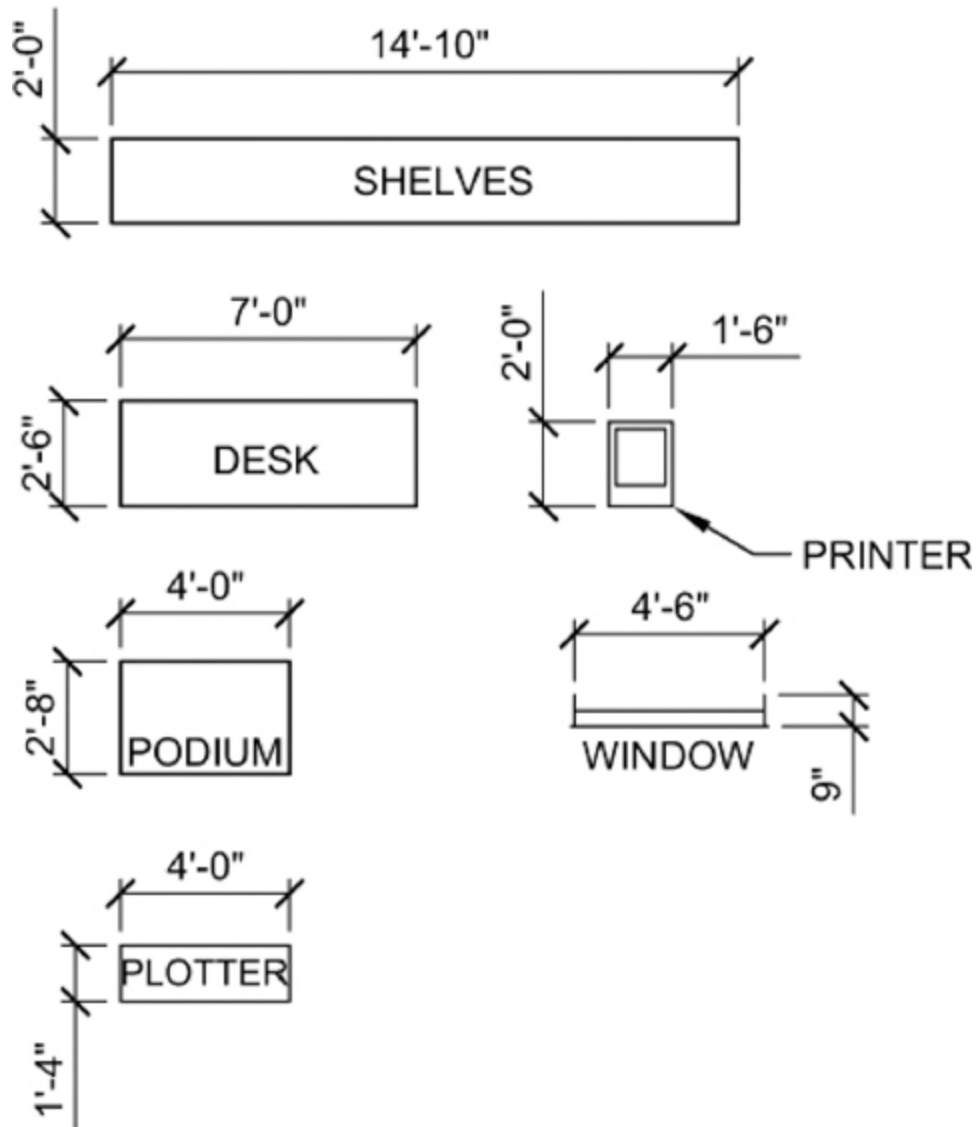

Figure 8-42
2. Draw the remaining equipment and windows shown in Figure 8-42 using the appropriate layers. The windows are all 4'-6" wide. Do not draw dimensions or text.